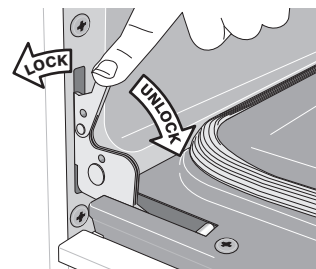

Figure 13: Door hinge locks
2. Pull the door hinge locks on both left and right door hinges down from the oven frame completely towards the oven door (See Figure 13). A tool such as a small flat-blade screwdriver may be required.
4. Push the door hinge locks up towards and into the oven frame on both left and right oven door hinges to the locked position (See Figure 13).